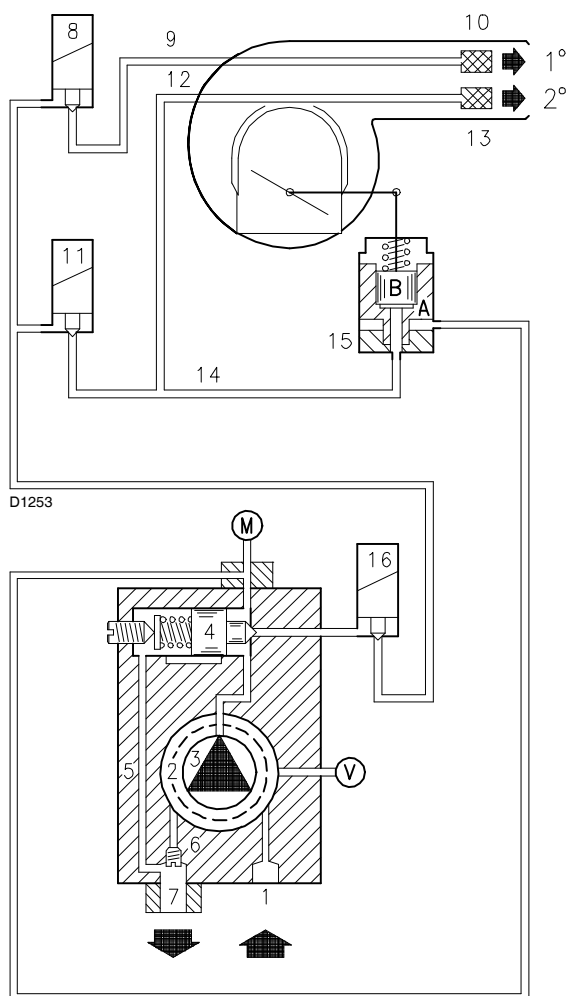

Fig. 25
The pump 3)(Fig. 25) sucks the fuel from the tank through the piping 1) and the filter 2) and pumps it under pressure to delivery.
- When the temperature or the pressure increases until the control device TR opens, solenoid valve 11)(Fig. 25) closes, and the burner passes from the 2nd to the 1st stage of operation.